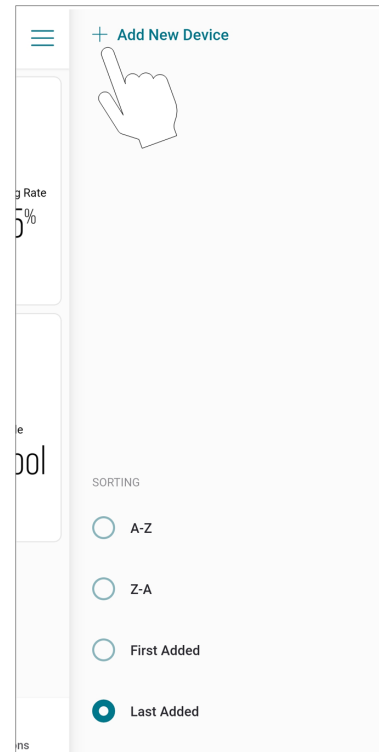

Figure 80. Add New Device
Once the user registration is complete, you can begin to add your AVIA heaters via the Raymote mobile app. See **Figure 80**.
- In the Raymote app, press the menu button ≡ located at the top left corner of the screen, then press "+ Add new device". See **Figure 80**.